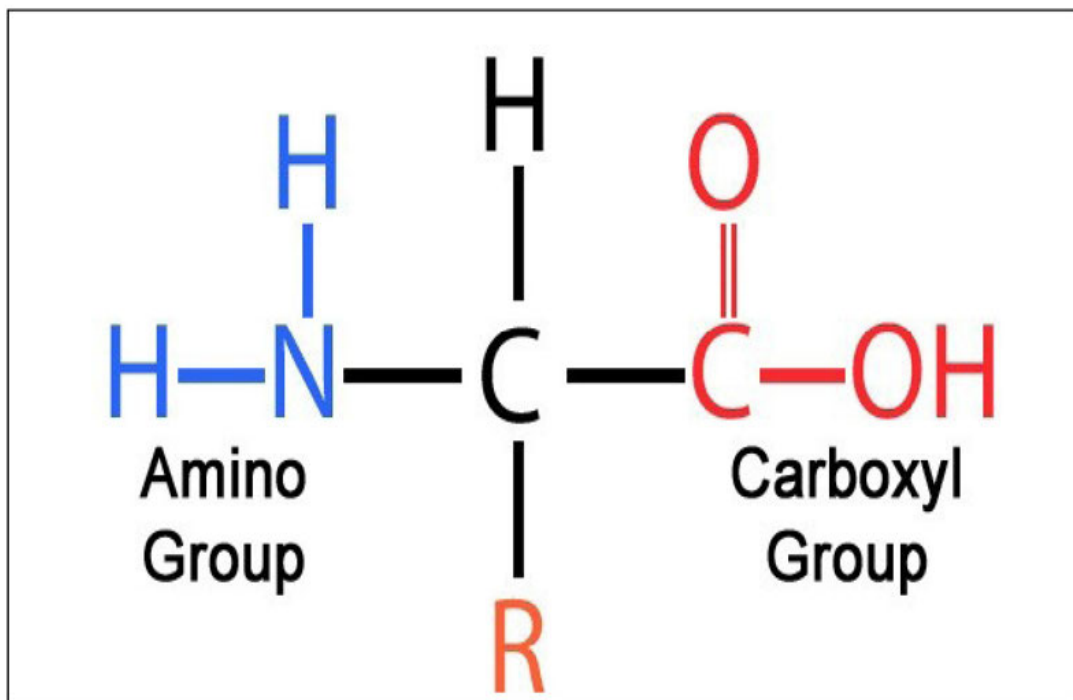

Figure 4 – Amino acid structure
The basic construct of an amino acid is shown in Figure 4. (2) An amino acid comprises an NH₂ molecule attached to a central carbon atom. Appended to that central atom is a hydrogen atom, a carboxyl structure and a complex R functional group.